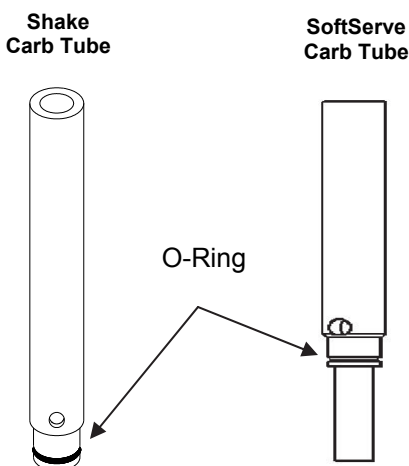

Fig. 3
1. Remove the carburetor tube (Fig. 3) from the mix inlet hole and lay in the bottom of the mix pan.